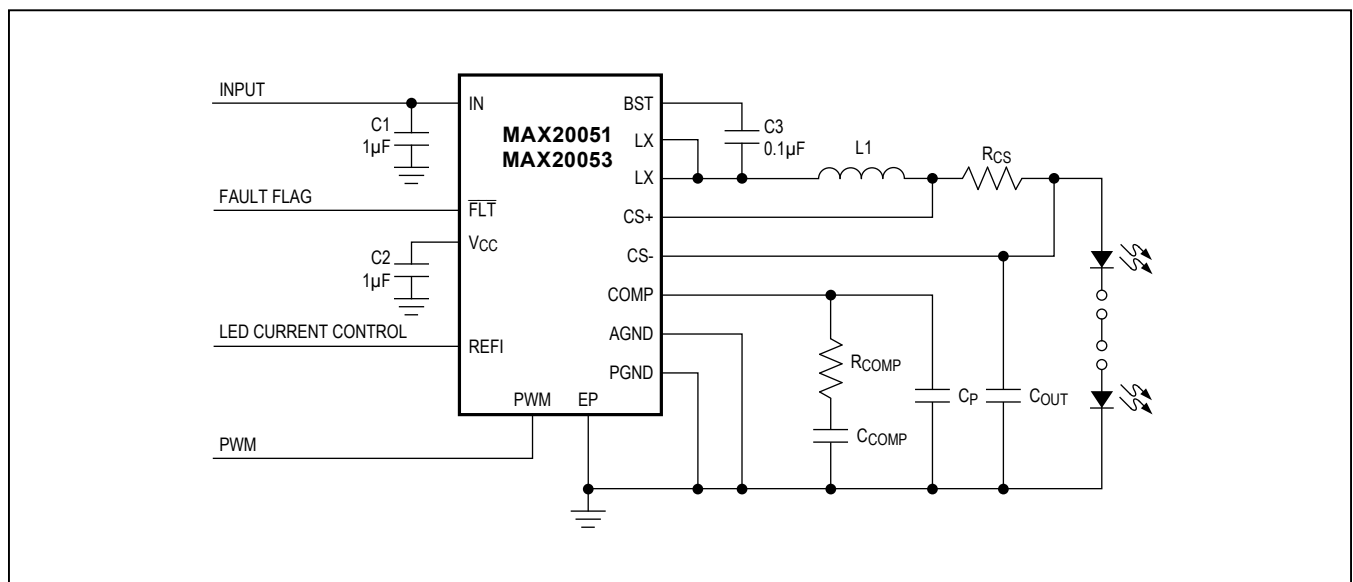

Figure 4. Typical Application Circuit Using the MAX20051
Normal sensing of the LED current should be done on the high side where the LED current-sense resistor is connected to the inductor. The other side of the LED current-sense resistor goes to the anode of the external LED string. The LED current is programmed using RCS (see Figure 4). When REF1 is set to a voltage >1.3V, the internal reference regulates the voltage across RCS to 220mV. The current is given by:
The MAX20050/MAX20052 have internal loop compensation and there is no user-available adjustability of the loop compensation components. In the case of the MAX20051/MAX20053, an external COMP pin is present and an external compensation network is required for stable operation. See Figure 4 for the typical application circuit using the MAX20051.
- 1) Large switched currents flow in the IN and PGND pins and the input capacitor C1 of Figure 4. The loop formed by the input capacitor should be as small as possible by placing this capacitor as close as possible to the IN and PGND pins. The input capacitor, device, output inductor, and output capacitor should be placed on the same side of the PCB and the connections should be made on the same layer.